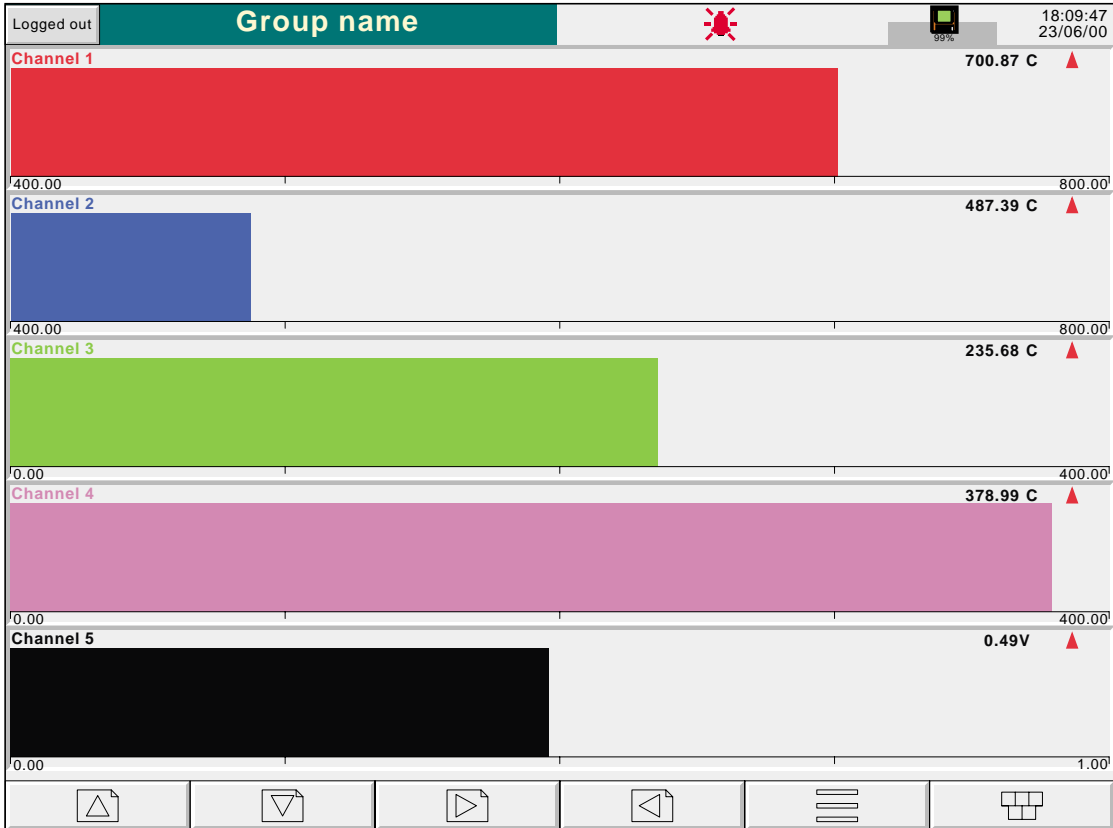

Figure 3.4.4a Horizontal bargraph display (1 to 12 channels)
Entered from Vertical bargraph mode by means of the 'Cycle' or down arrow key, this display mode shows the Process Variable (PV) values as horizontal bars with digital values and alarm data displayed, as shown in figures 3.4.4a and 3.4.4b. Single column format is used when there are up to 12 channels in the display group; double column for more than 12 channels.